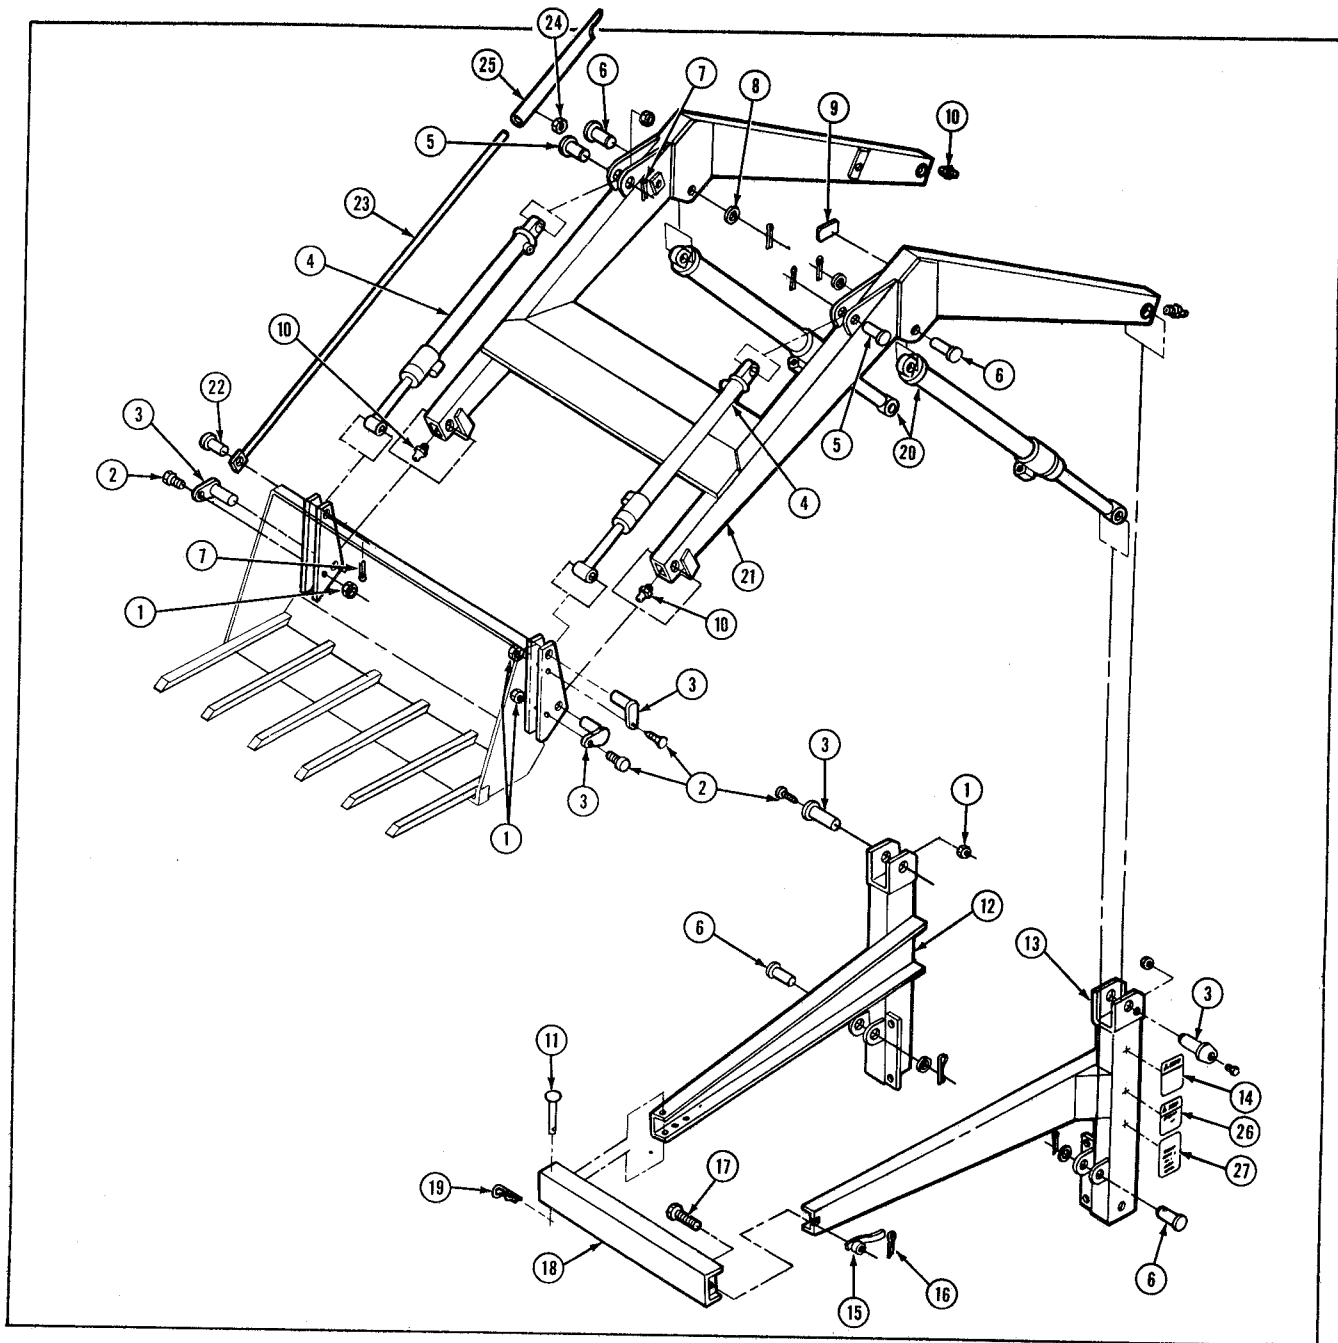

Figure 3
1. Attach bumper spacer (18), Figure 3, to the right side frame (12) with 1/2" x 4-1/2" pins (11) and hair cotter pins (19).
2. Place the square shank of a 7/16 x 3-1/2" bolt (17) through the square hole in the bumper spacer and through the slot in the left side frame (13). Secure the bolt with handle nut (15). Insert cotter pin (16) through the end of the bolt.
1. Attach rod ends of lift cylinders (20) to side frames with 1" x 2-7/8" pins (6). Place machinery bushing (8) on pins and secure with 1/4" x 1-1/2" cotter pins (7), as shown in Figure 3.
2. Attach base of lift cylinders to boom with 1" x 2-7/8" pins (6). Place machinery bushing (8) on pins and secure with 1/4" x 1-1/4" cotter pins (7) as shown.
3. Attach base end of bucket cylinders to boom with 1" x 2-7/8" pin (6) and 1/4" x 1-1/2" cotter pin (7). Be sure to crimp the legs of the cotter pins.